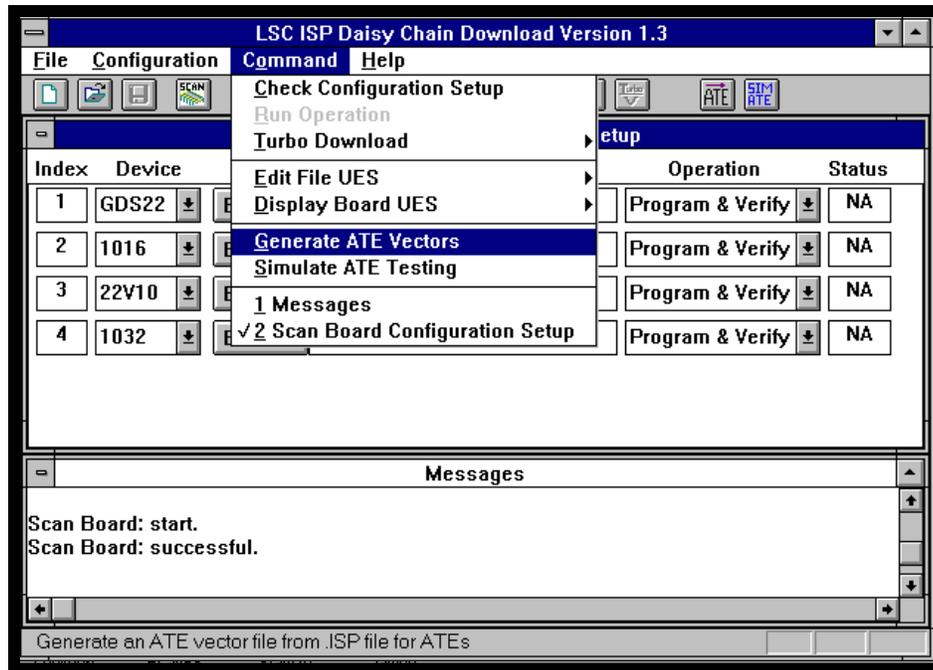
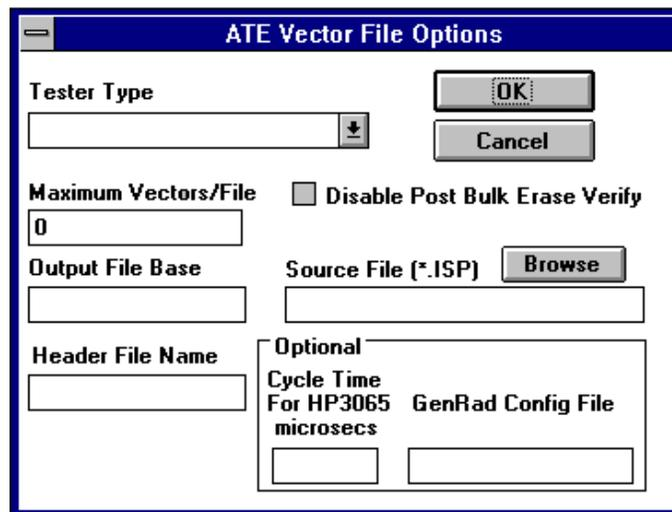

Figure 3-24. **Command** ⇒ **Generate ATE Vectors** Menu Item
Figure 3-25. ATE Vector File Options Dialog Box
1. Select **Command** ⇒ **Generate ATE Vectors** or the **ATE** icon from the ISP Daisy Chain Download menu (Figure 3-24). The ATE Vector File Options dialog box appears (Figure 3-25).